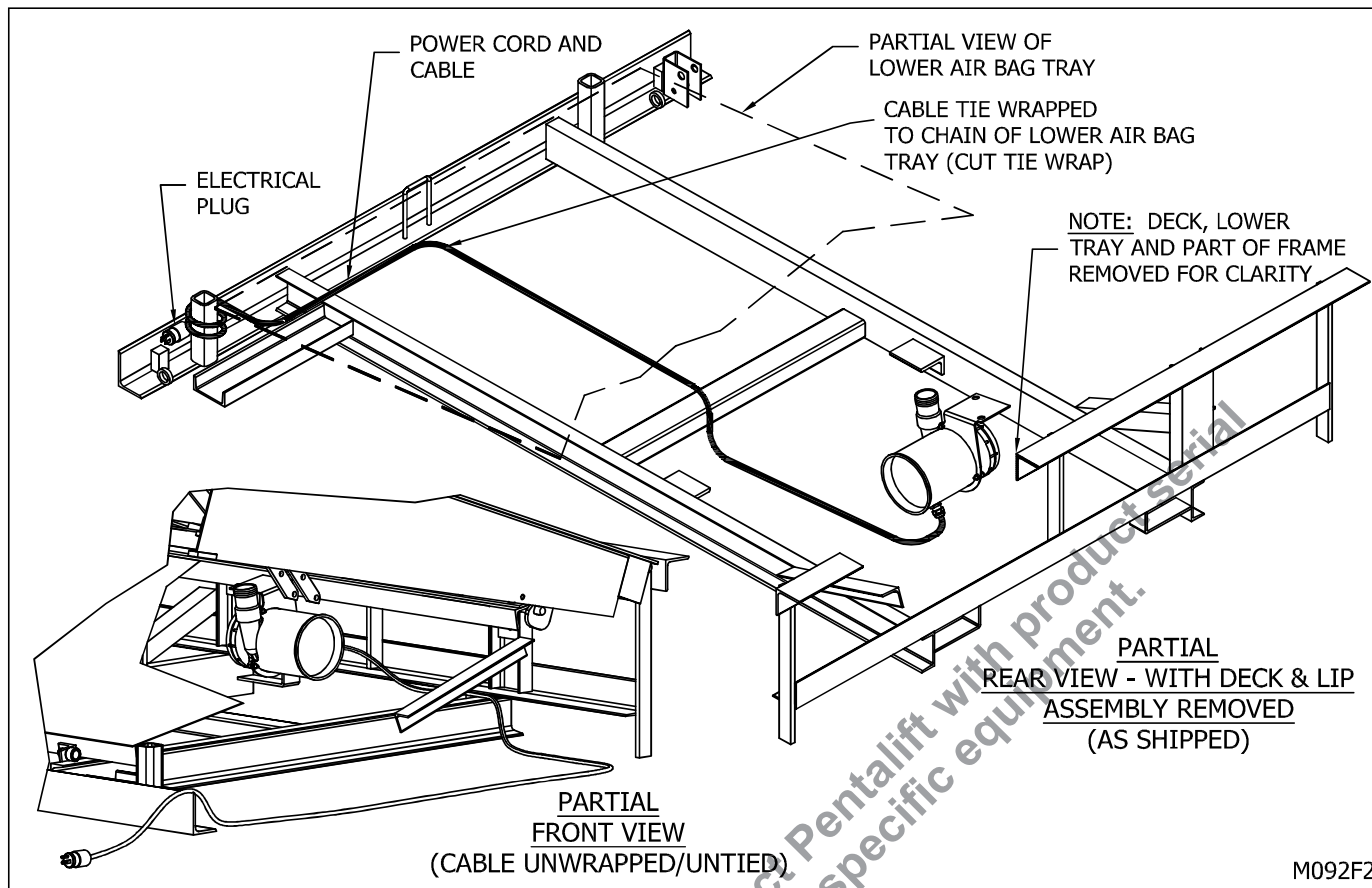

Figure 7a: Temporary Power Cord & Plug
Note: Ensure temporary wire is accessible through front of dock leveler. (“Figure 7a: Temporary Power Cord & Plug” on page 11)
4. — Raise dock leveler by plugging dock into power supply with the supplied power cord and plug assembly (see “Figure 7a: Temporary Power Cord & Plug” on page 11) .
11. ☐ Connect the temporary wire from the power supply to the temporary wire supplied with the dock leveler. ("Figure 7a: Temporary Power Cord & Plug" on page 11)